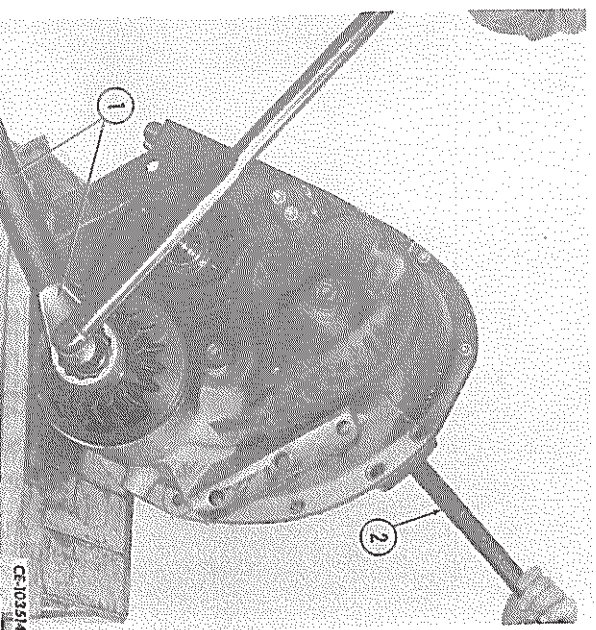

FIG. 91 — Installing the Pinion Shaft Rear Nut
for 15 to 20 minutes or the plastic portion of the elastic nut will melt. When the nut is installed, tighten it to 678-745 N.m (500-550 lbf ft) torque. To do this, the shaft should be turned with the torque wrench as the nut is held with a box wrench and extension bar (1, Fig. 91). Use a pry bar (2) to keep the case from rising.